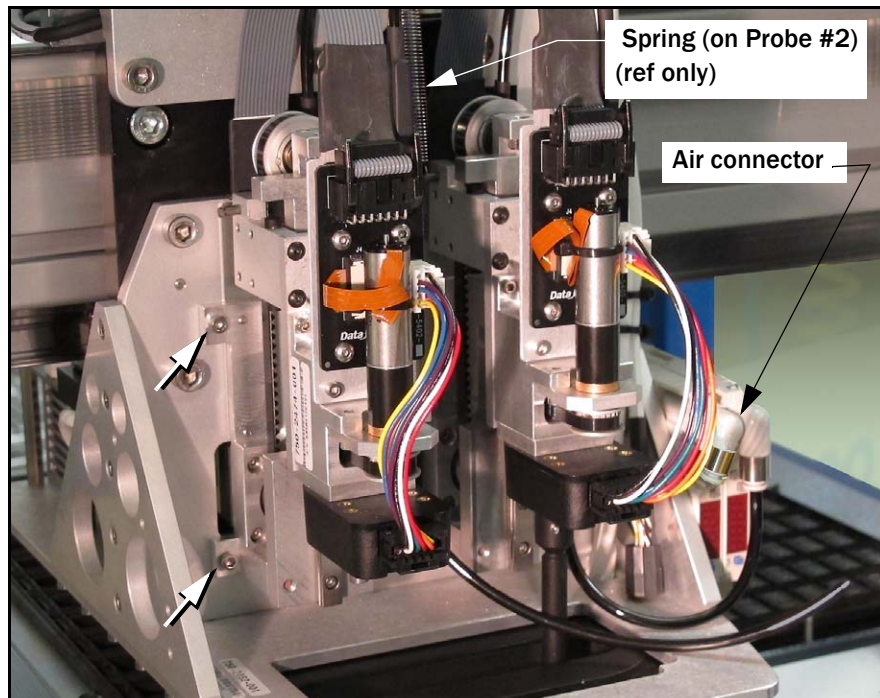

Figure 4-15: Probe Assembly #1 (on left) has air hose disconnected and the Z-axis retention spring removed. Two of the four fasteners are shown (arrows).
7. Remove the four fasteners that hold the Probe Assembly to the PNP head. Refer to Figure 4-15. (A long 2.5 mm hex key is required.)